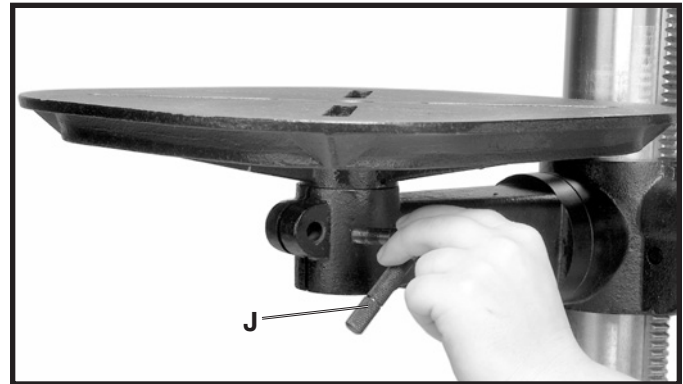

Fig. 10
10. Thread table locking lever (J) Fig. 10, into hole in front of table bracket as shown.